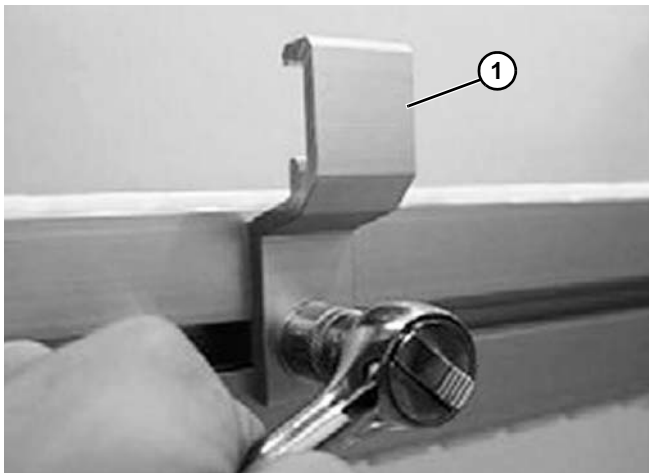

Figure 90
1. Fasten a fixed guide rail bracket support (Figure 90, item 1) to the conveyor beam using T-bolt.